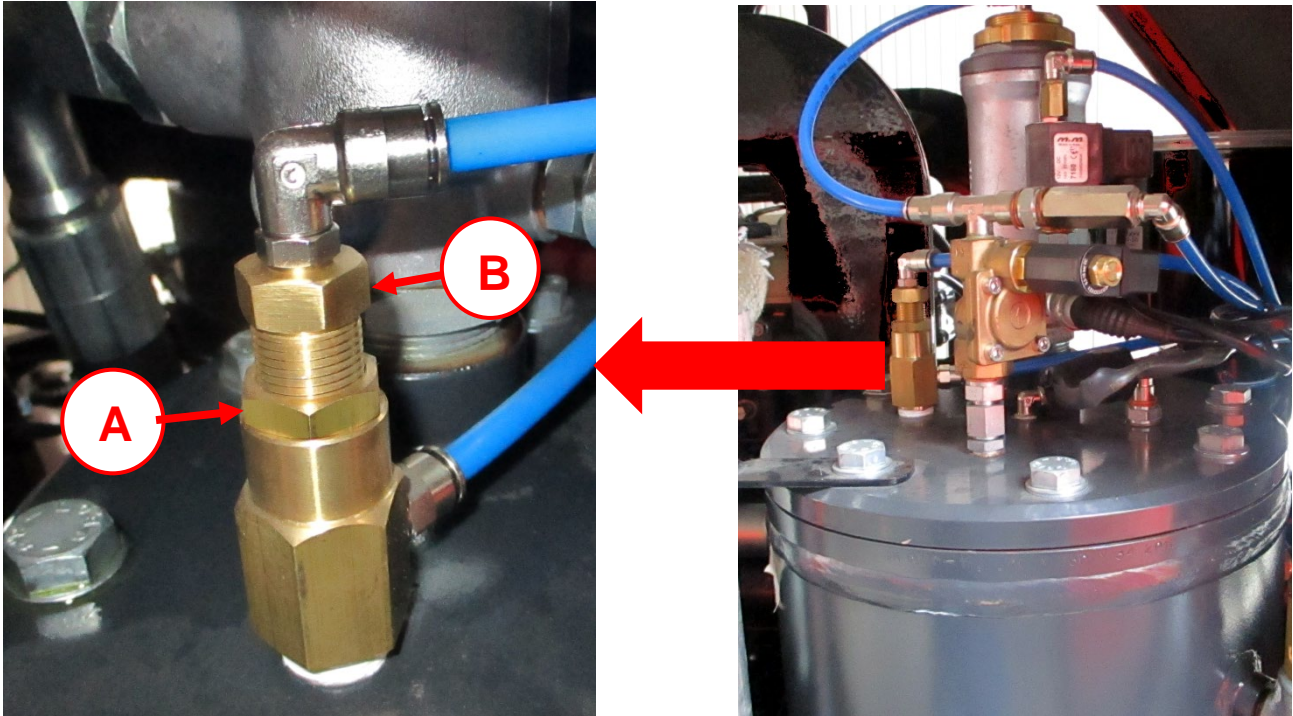

Figure 11.2-1 Adjusting maximum pressure pneumatic circuit
5. Unscrew with wrench 22 mm wrench the nut (Letter A in Figure 11.2-1);
6. If you want to increase the maximum pressure must tighten with 19 mm wrench, nut (Letter B in Figure 11.2-1);
7. If you want to reduce the pressure unscrew, with a 19 mm wrench, nut (Letter B in Figure 11.2-1);
8. Once the valve is adjusted, tighten the lock nut with a 22 mm wrench (Letter A in Figure 11.2-1);